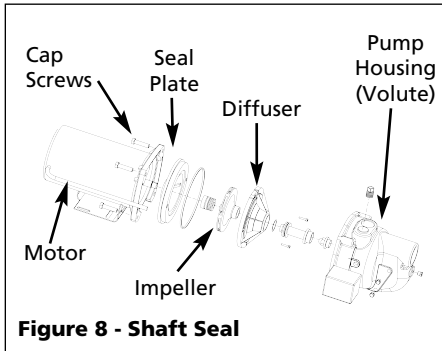

Figure 8 - Shaft Seal
- Remove the four cap screws holding the pump housing (volute) to the motor (Figure 8).